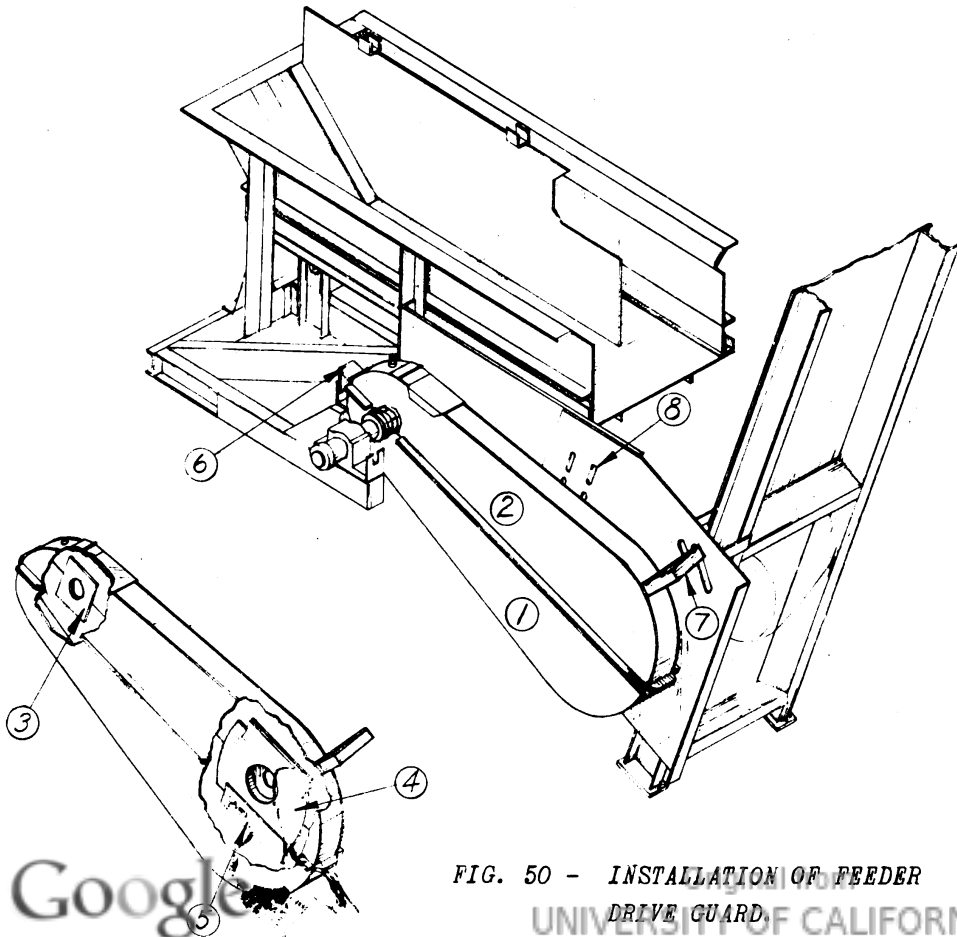

FIG. 50 - INSTALLATION OF FEEDER
6. Installing Chain Guard (See Fig. 50)